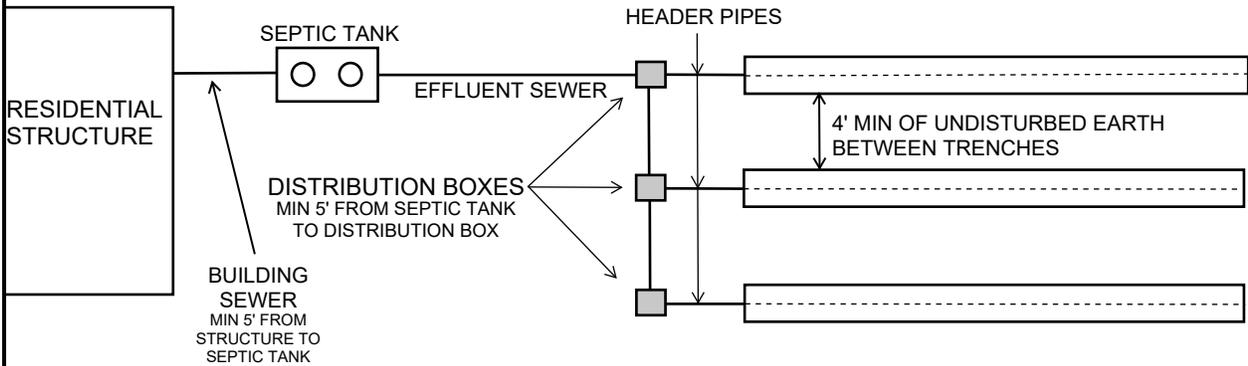

## FIGURE 5 - EQUAL DISTRIBUTION WITH D-BOX DETAILS
- a. **Equal Distribution** *(Figure 5)* means all leach lines are being fed from the sewer in equal amounts at the same time. This is achieved through the use of a Distribution Box, or D-Box. A D-Box must meet the following requirements: